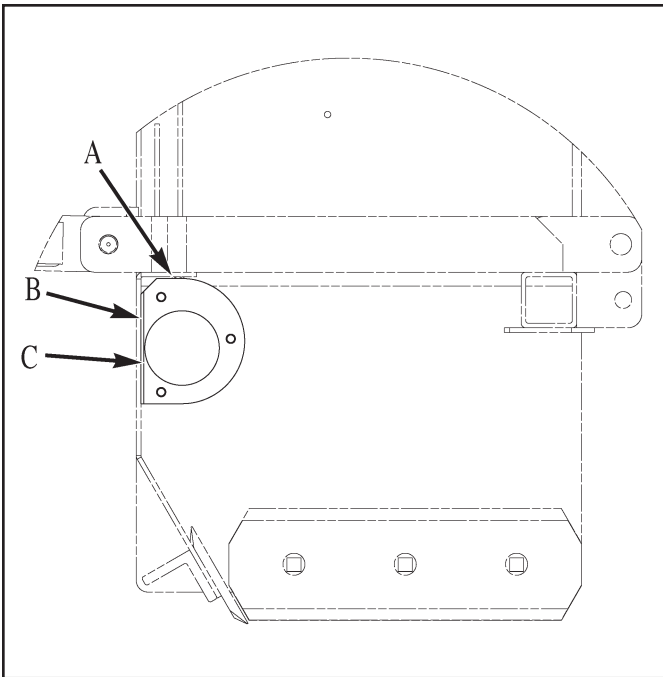

Figure 2. Side View Mounting Blocks
2. Slide mounting blocks into the upper rear corners of the grader box. Side A should fit up against the top lip of the backsheet. Side B should fit back against the backsheet. The mounting blocks will be notched (C) to clear the weld on the inside of the box See Figure 2.